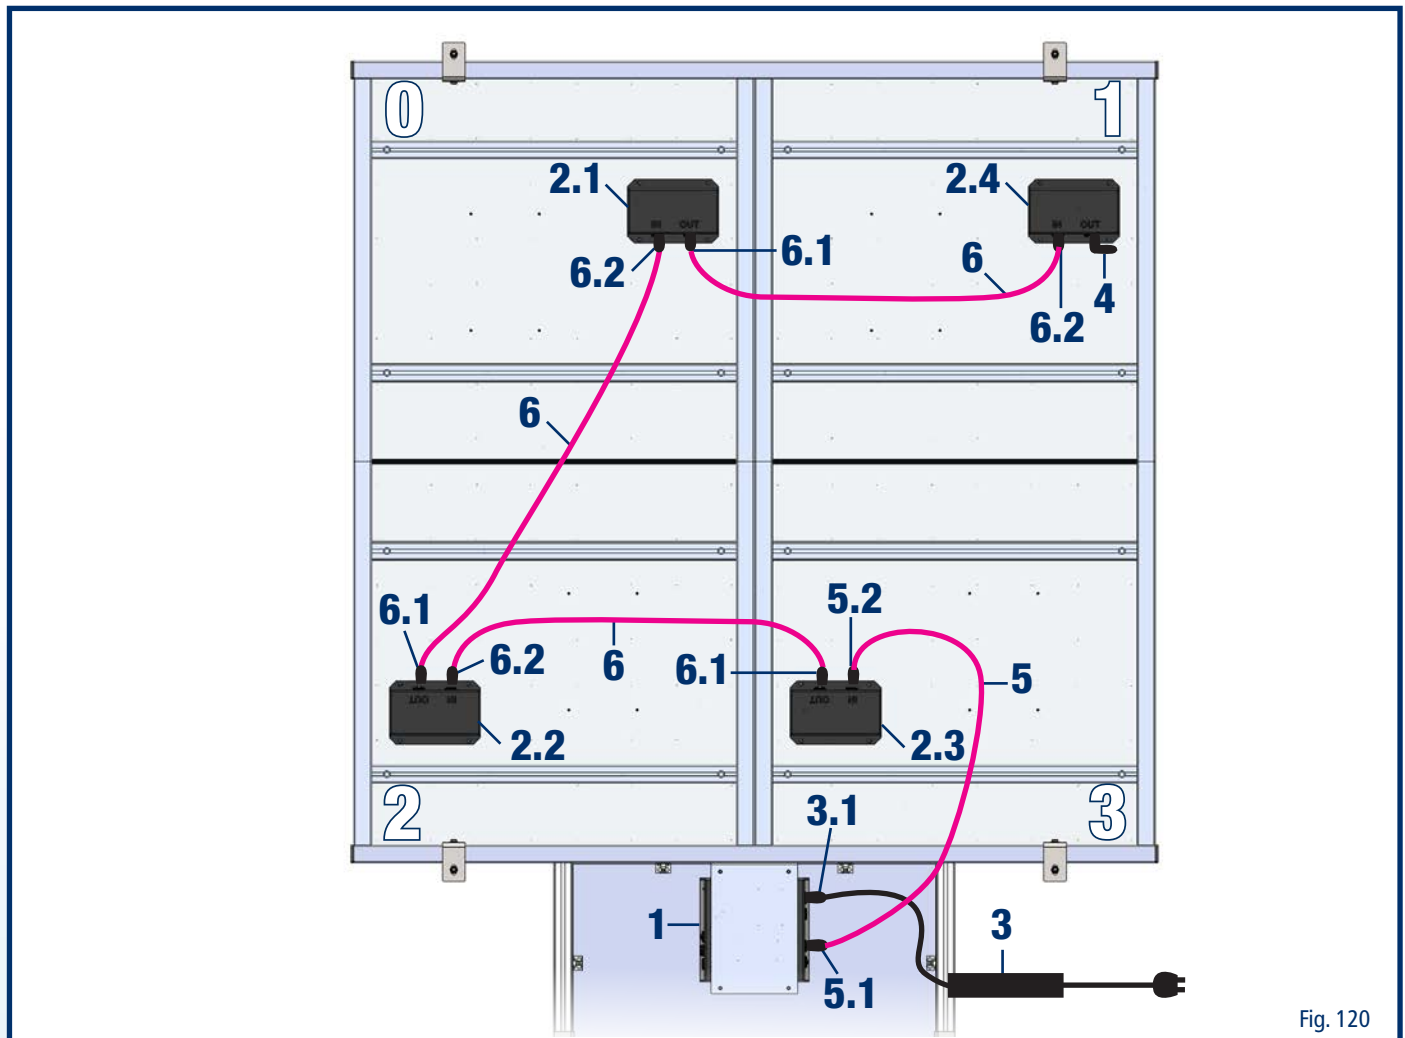

Fig. 120
The following section explains how to route the power cables for the twall® A64 (stationary version). See Fig. 120.
- 1x power adapter (3) with XLR socket, 3-pin (3.1)
- 1x terminator (4)
- 1x power CAN cable (5) with XLR plug, 4-pin (5.1) and XLR socket, 4-pin (5.2)
- Connect the plug (5.1) to the control box (1), **TWALL OUT** output.
- 3x power CAN cable (6) with XLR plug, 4-pin (6.1) and XLR socket, 4-pin (6.2)
- See Fig. 120 for the recommended power CAN cable sequence.